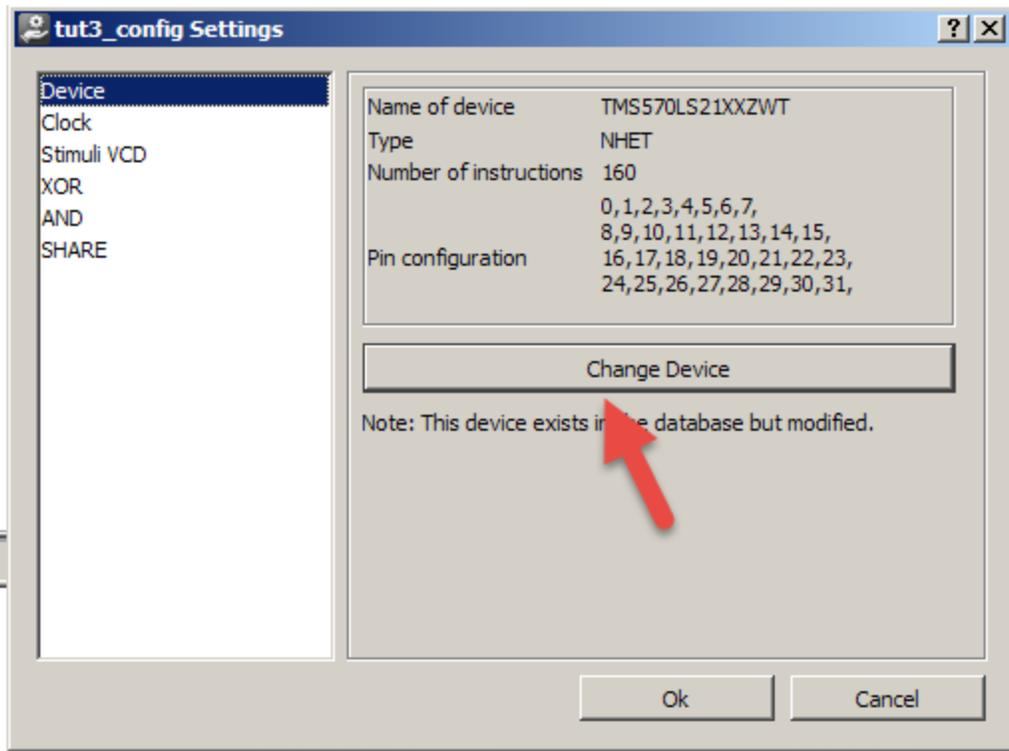

Figure 24. Changing the Device Configuration
- (b) When the project properties dialog opens, make sure Device is selected in the left pane. Then, click on the "Change Device" button (see Figure 24).